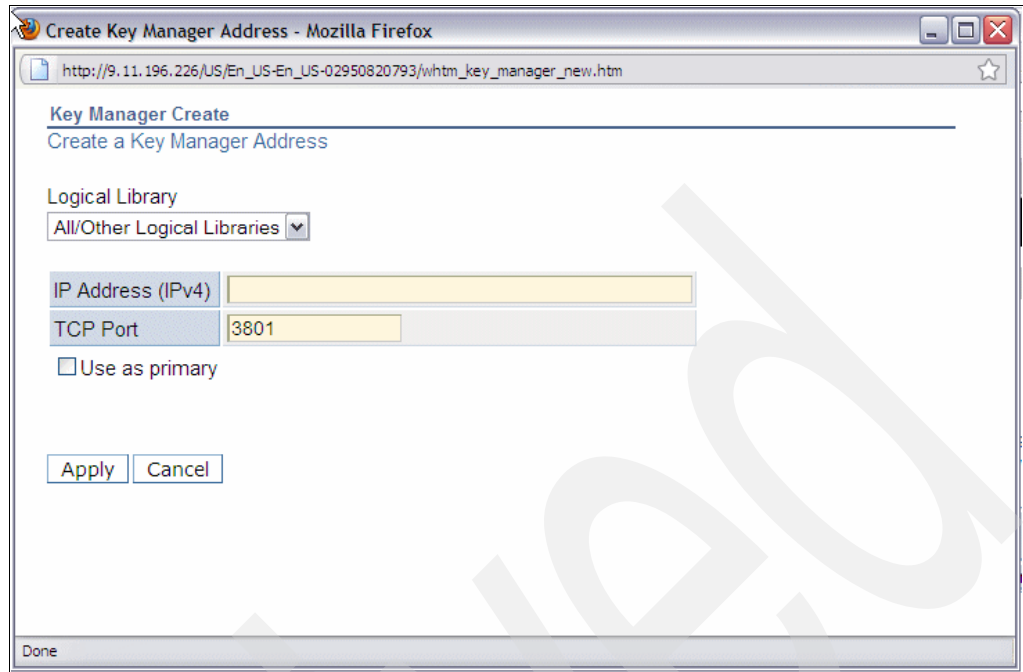

Figure 3-21 TS3500 Create Key Manager Addresses
2. Select **Access** → **Key Manager Addresses**. The Key Manager Addresses window is displayed (Figure 3-21).
- To create a key manager address: From the Select Action drop-down box, select **Create** and click **Go**. The Key Manager Create window displays. Enter the IP address and port of the key manager and click **Apply** (Figure 3-21).